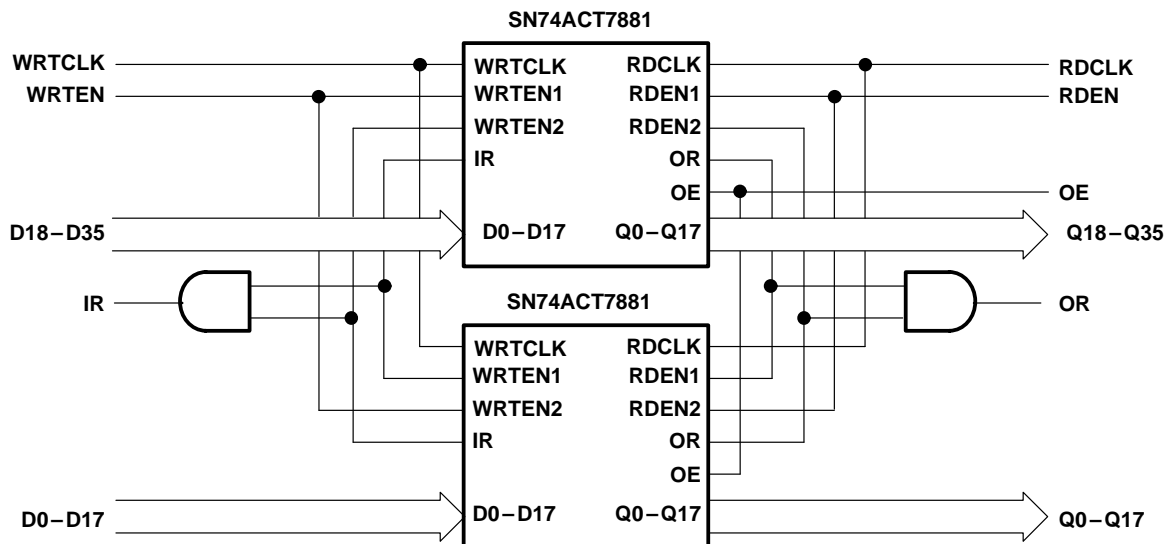

Figure 10. Word-Width Expansion: 1024 Words \times 36 Bits
Figure 10 shows two SN74ACT7881 devices in word-width expansion. Word-width expansion is accomplished by simply connecting all common control signals between the devices and creating composite input-ready (IR) and output-ready (OR) signals. The almost-full/almost-empty flag (AF/AE) and half-full flag (HF) can be sampled from any one device. Word-depth expansion and word-width expansion can be used together.